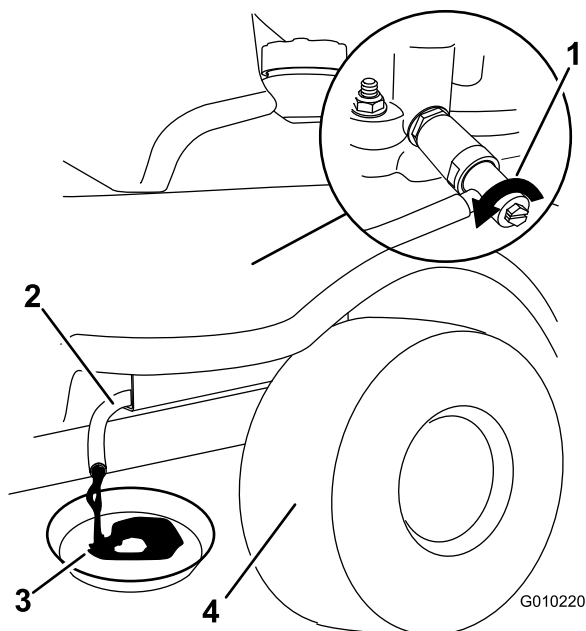

Figure 37
- Place a pan below the drain hose. Open oil drain valve to allow oil to drain (Figure 37).
- Remove the drain hose (Figure 37).